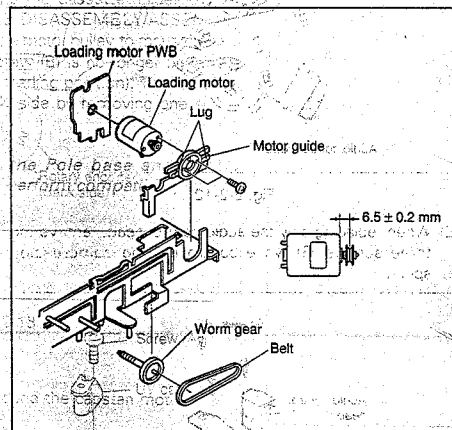

Fig. 2-2-15
- (1) Remove the belt wound around the worm gear.
- (2) Open the two lugs of the motor guide and remove the loading motor, loading motor PWB and motor guide altogether by pulling them up.
- (3) When replacing the motor base, take care with the orientation of the motor (so that the label faces upward).
- (4) When the motor pulley has been replaced, choose the fitting dimension as indicated in Fig. 2-2-15.